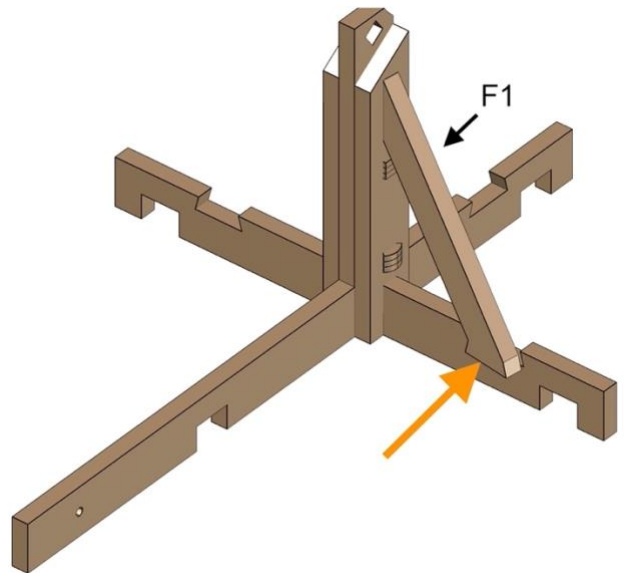

Fig. 42
- Push the bottom of the F1 piece into place (*Fig. 42*).